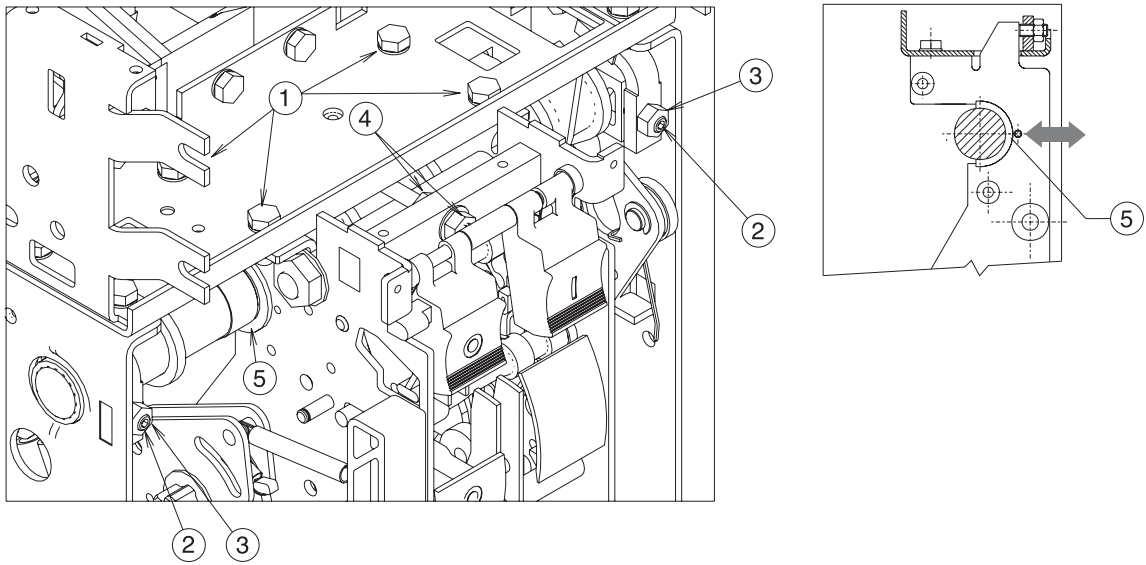

Fig. 33a
- loosen the screws in pos. 1 and the nuts in pos. 3 (FIG. 33a)
- proceed in the same way on the screws in pos. 2
- bring the bushes of the operating mechanism (pos. 5) to rest on the shaft, tacking action on the nuts in pos. 4
- tighten the screws in pos.1 and the nuts in pos. 3 and 4
- loosen the screws in pos. 1 and 6, the nuts in pos. 3 and 8 (FIG. 33a and 33b)
- bring the bushes of the operating mechanism (pos. 5) and the bushes of the intermediate abutments (pos. 9) to rest on the shaft, tacking action on the nuts in pos. 4 and the screws in position 7
- tighten the screws in pos. 1 and 6, and the nuts in pos. 3, 4 and 8
- 4) If the gap A is not correct, open the circuit-breaker again and repeat the procedure indicated in item 3a or 3b